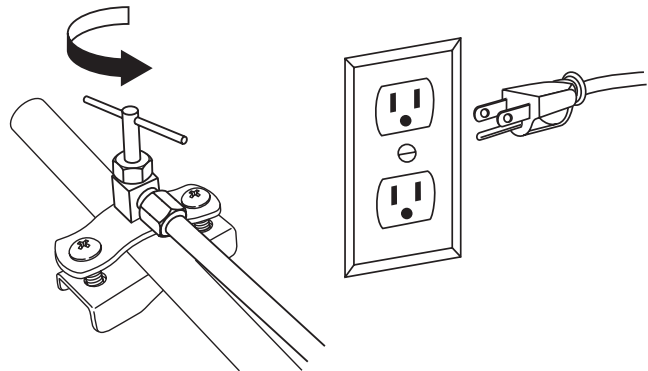

Figure 23
3. Open the shut-off valve for the water supply and check the entire water system for leaks. Before the appliance is used for the first time a licensed plumber should bleed air from the system (**Figure 23**).
4. Insert the electrical plug for the appliance into the electrical outlet (**Figure 23**).